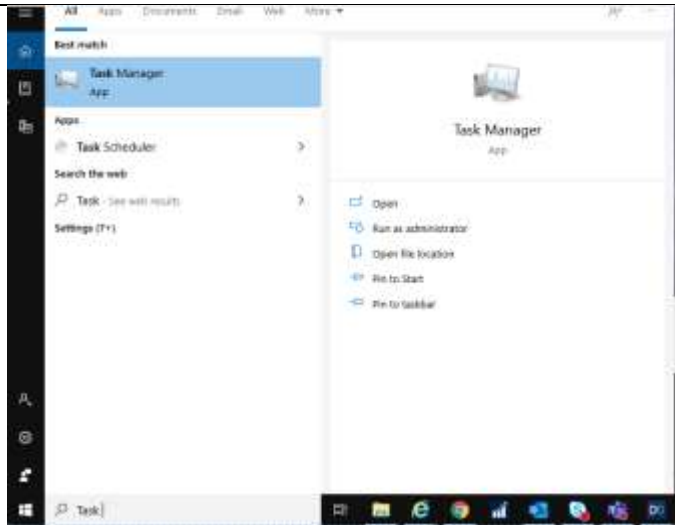
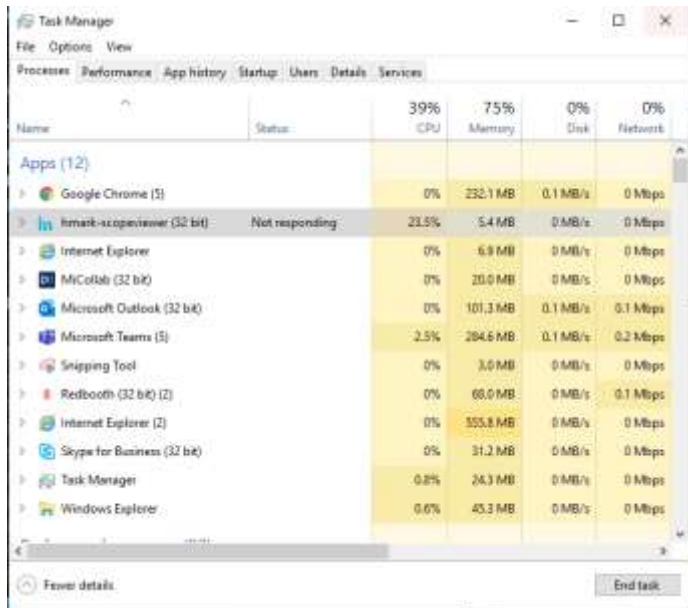

Figure 19
Figure 20
3. In such a situation when the screen freezes, you can open Task Manager from your computer and click on 'Flexible Inspection Scope Software' and forcefully end task by clicking on 'End Task'. **Fig. 19, Fig. 20**